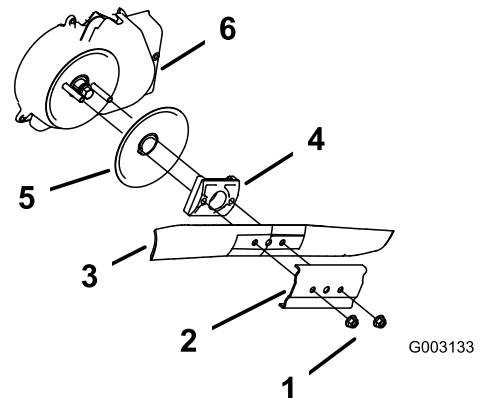

Figure 30
3. Remove the 2 blade nuts and the stiffener (Figure 30).
4. Remove the blade (Figure 30).
5. Remove the blade driver and disk (Figure 30).
6. Remove the blade brake clutch shield (Figure 30).
10. Install the blade and the stiffener that you previously removed (Figure 30).